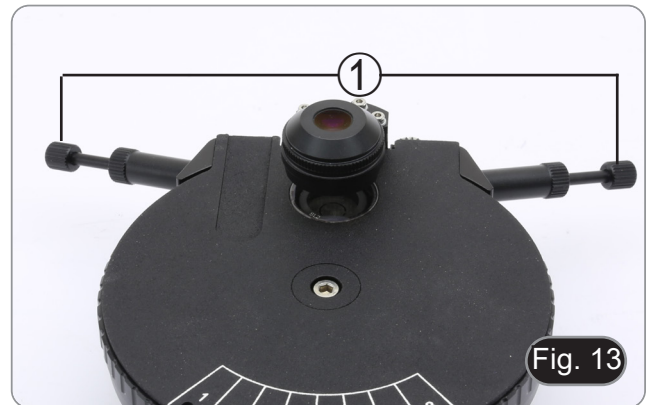

Fig. 13
5. Using the centering screws on the condenser ① (Fig. 13) centre the dark field ring until the field of view is evenly illuminated.
- Using centering screws on the condenser ① (Fig. 13), center the phase rings to make the bright ring ② be concentric to the dark ring ③. (Fig. 16)
6.4 Simple Polarized Light observation (PO)